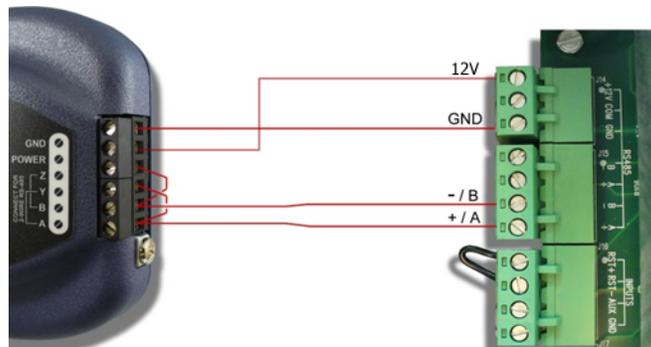

Figure 1: Gateway and Chillgard RT Connections
The Chillgard RT can be used to power the gateway from its 12V supply by connecting J14 terminals 1 (+12V) and 3 (GND) to the gateway's terminal block at terminals TB:5 (POWER) and TB:6 (GND) as shown in Figure 1. For RS-485 communications, connect J15 terminals A (+) and B (-) on the Chillgard RT to the gateway's terminal block at terminals TB:1 (A) and TB:2 (B) as shown in Figure 1. Additionally, a jumper wire must be placed on the gateway's terminal block between terminals TB:1 (A) and TB:3 (Y). Another jumper wire must be placed between terminals TB:2 (B) and TB:4 (Z), as shown in Figure 1.